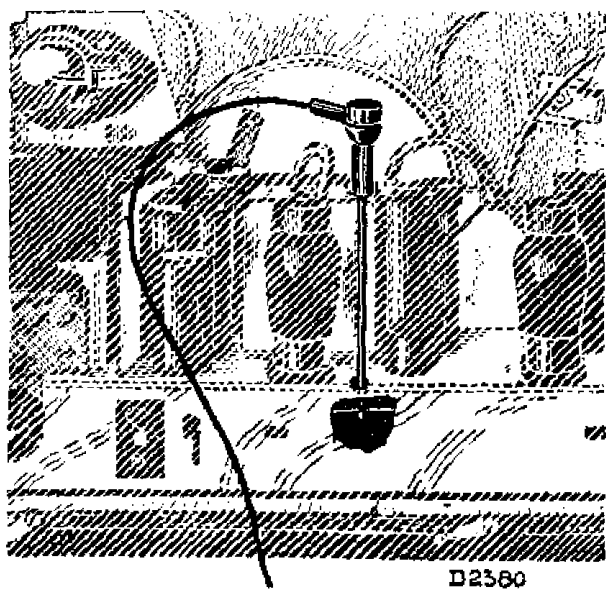

Fig. 5.
11. Connect auxiliary receiver via $25 \mu\text{F}$ condenser (see Fig. 5). Connect output indicator to the auxiliary receiver and tune the latter to 546 K.C.